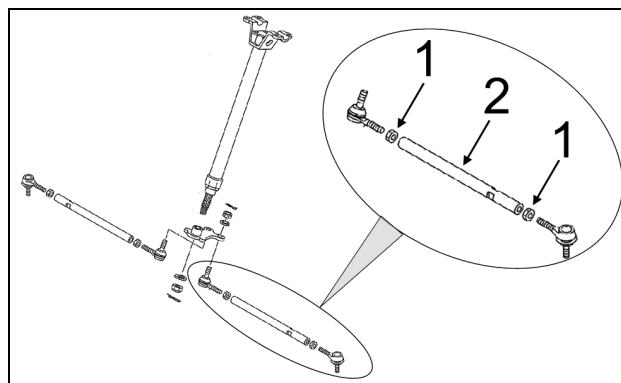

Figure 19
To adjust the ATV's steering system, first loosen coupling rod nuts (1), then screw or unscrew the coupling rod (2) an equal number of revolutions on both sides of the vehicle. Re-tighten nuts when adjustment is complete. See Figure 19.